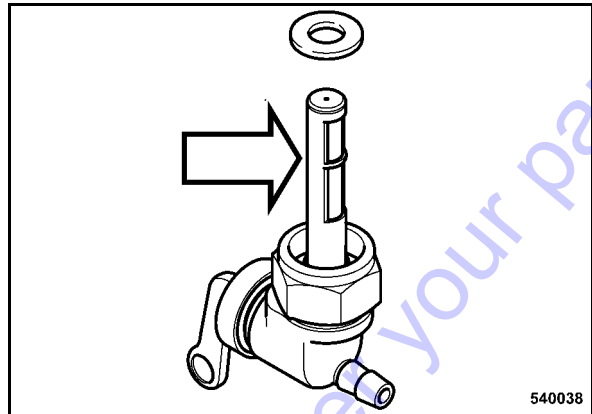

Fig. 51
- Unscrew the fuel valve (Fig. 51).